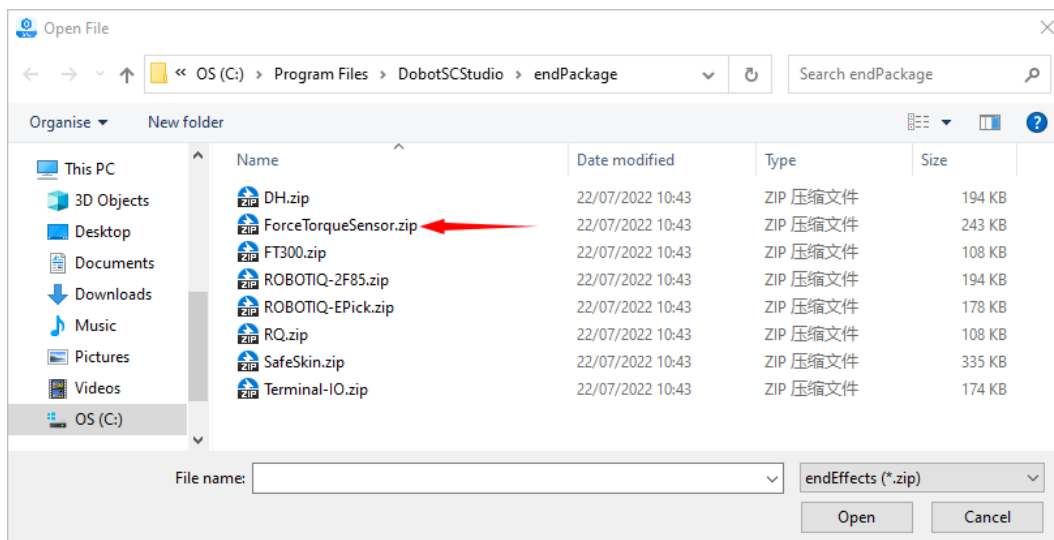

Figure 3.5 Install ForceTorqueSensor.zip
Step 3 Double-click **ForceTorqueSensor.zip** to install it, as shown in Figure 3.5.